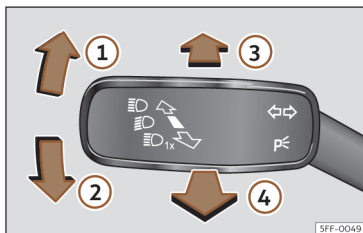

Fig. 108 Turn signal and main beam lever (depending on the version).
- From the neutral position, press the turn signal and main beam headlights lever forwards >>> **Fig. 108 ③**.
- **EITHER:** if main beam assist is on, pull the turn signal light and main beam headlights lever back >>> **Fig. 108 ④**.